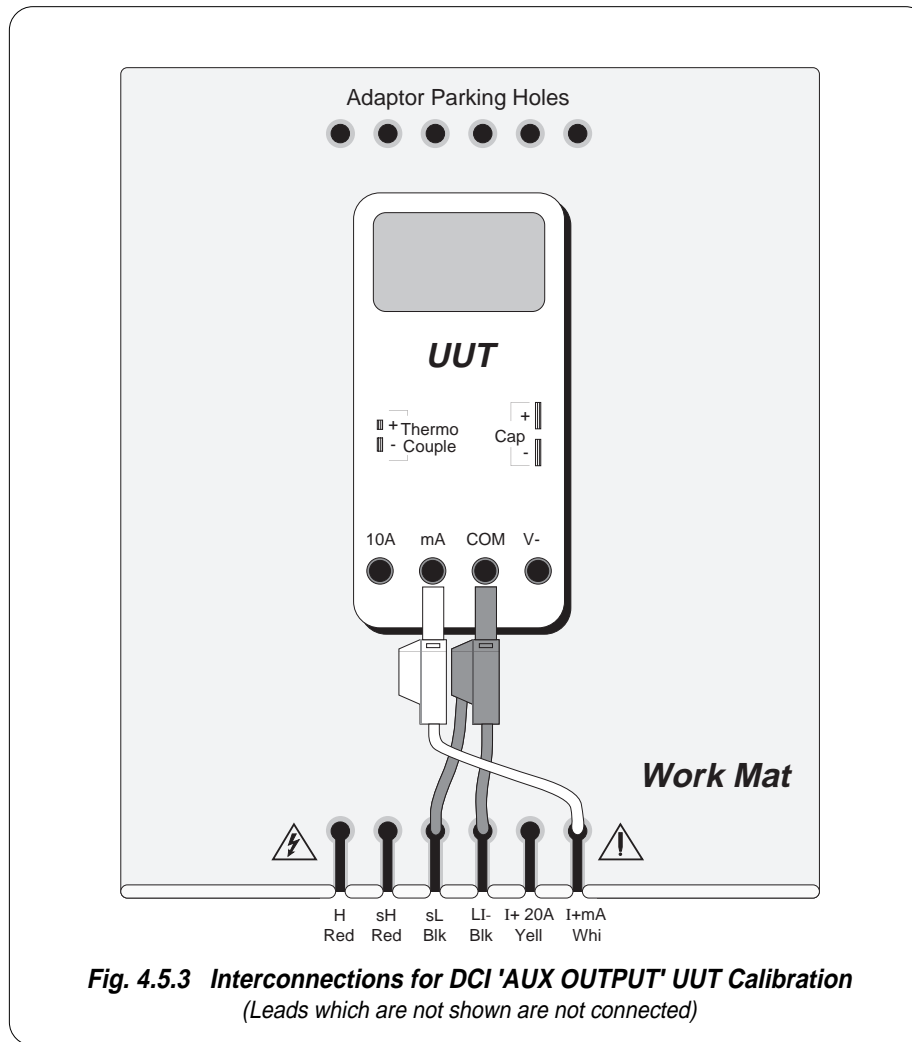
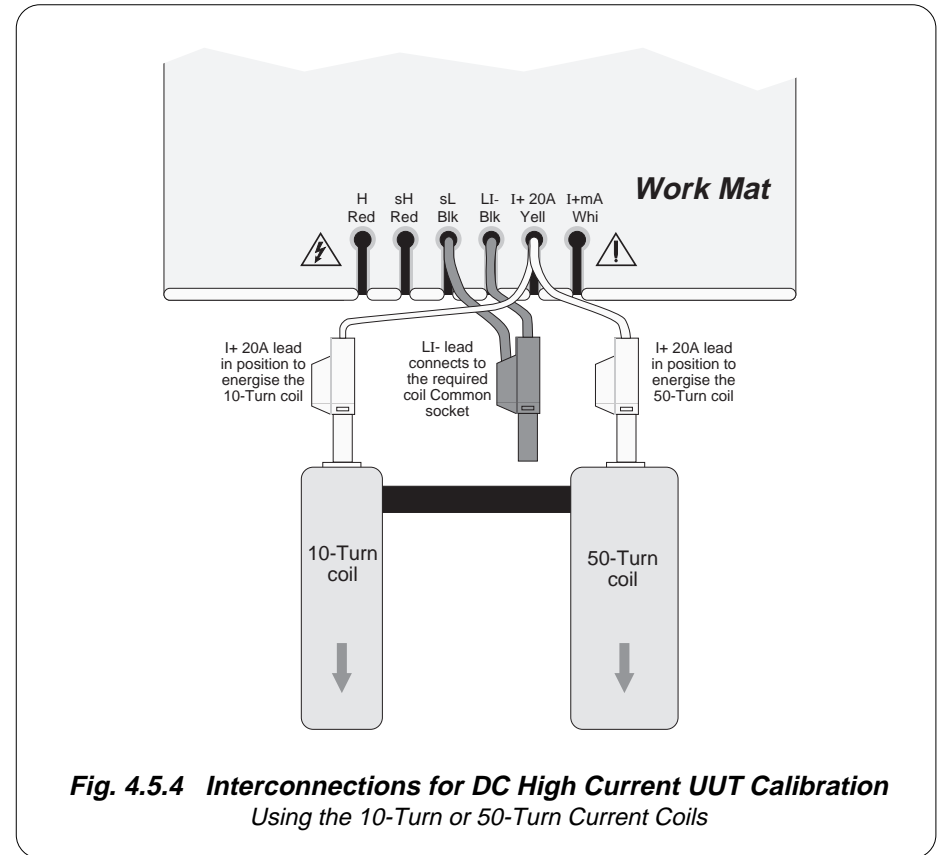

Fig. 4.5.3 Interconnections for DCI 'AUX OUTPUT' UUT Calibration
Fig. 4.5.4 Interconnections for DC High Current UUT Calibration
The sensor clamp passes through the center air space of the selected coil — manufacturers' precautions should be observed as to the positioning of the clamp within the coil — refer also to the notes with Fig 4.5.4/5/6 on page 4.5-14.
1. **Connections** Connect the 9100 to the UUT as shown in *Fig. 4.5.2* (Normal Output), *Fig. 4.5.3* (Aux Output) or *Fig. 4.5.4* (Current Coil Output), and ensure that both instruments are powered ON and warmed up.